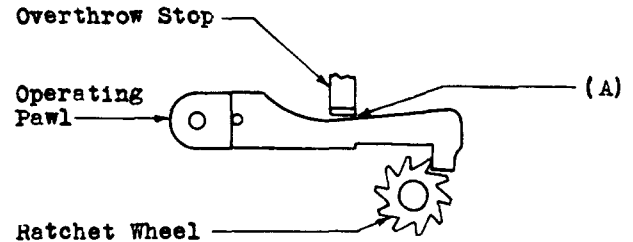

Fig. 4
**2.11 Pawl Clearance:** Fig. 4(A) — There shall be a slight clearance between the operating pawl and the overthrow stop. This requirement shall be considered as having been satisfactorily met if, with the clock electrically operated, the operating pawl may be moved slightly from side to side without binding on the overthrow stop. The clearance shall not be sufficient to permit overcount.